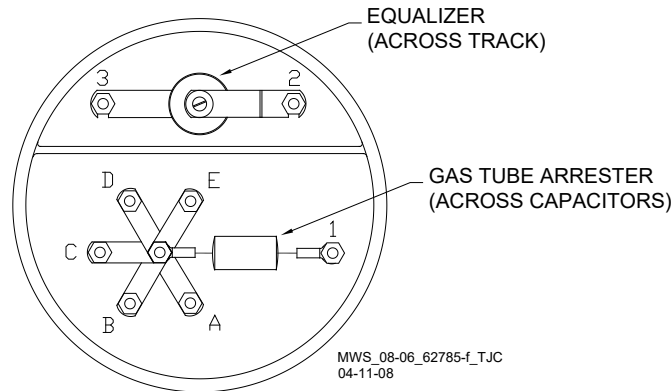

Figure 2: Tuned Joint Coupler, 62785-f
- AREMA binding posts are labeled A through E (see Figure 2)